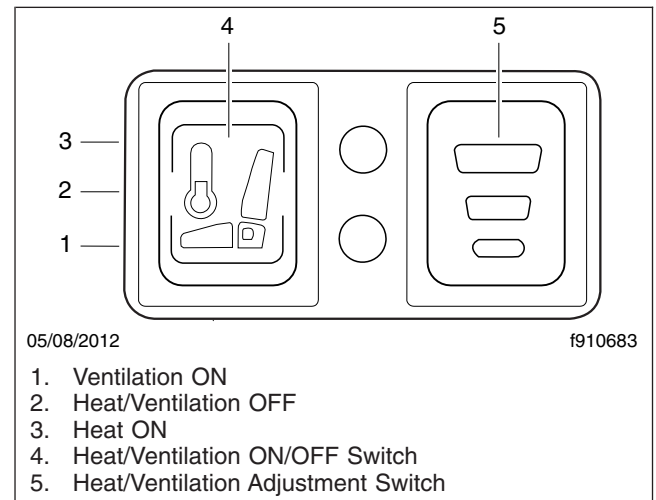

Fig. 7.3, High-Back Seat Heat/Ventilation Controls
2. **Heat/Ventilation:** Use the forward switch to turn the seat heater and ventilation ON or OFF. To turn on the heat, push the top of the switch. To turn on the ventilation, push the bottom of the switch. To turn off the heat or ventilation, move the switch to the middle position. To adjust the heat or ventilation, Use the rear button to adjust seat heating or ventilation. Three settings are available: low, medium, and high. See Fig. 7.3.